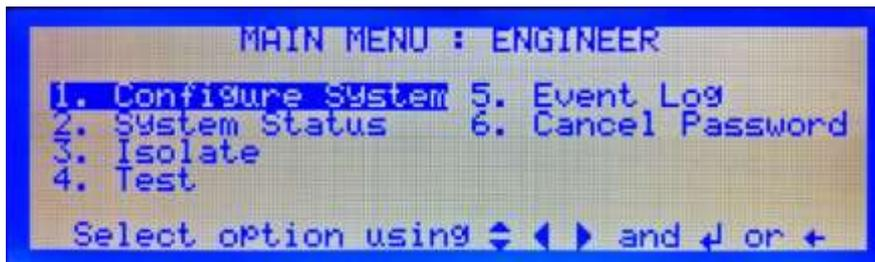

Figure 41
1. Enter the Main Menu: Engineer, Figure 41, and select 2. System Status.